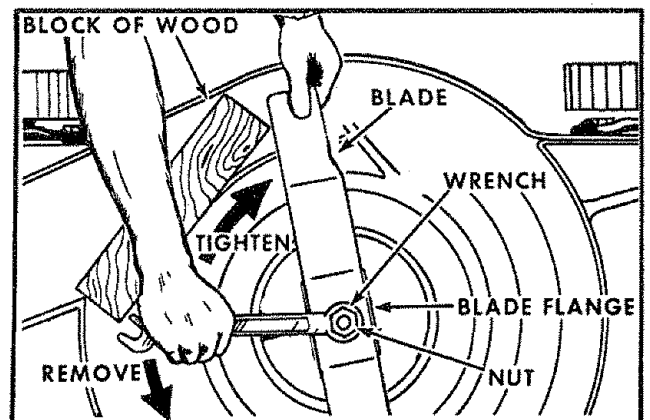

FIG. 18
1. To remove the blade and blade flange, turn mower on its side with carburetor and air filter up (See Fig. 18).
2. Take blade nut off by turning counter-clockwise. Use a 15/16" box or open end wrench on the blade nut (See Fig. 18).